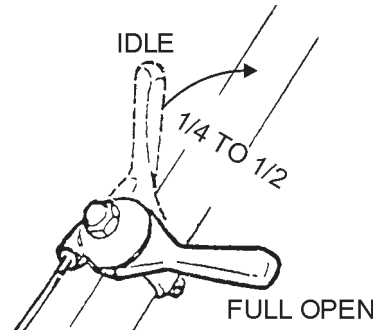

Figure 6. Throttle Lever (1/4 to 1/2)
4. Move the throttle lever (Figure 6) between 1/4 to 1/2 from the idle position.